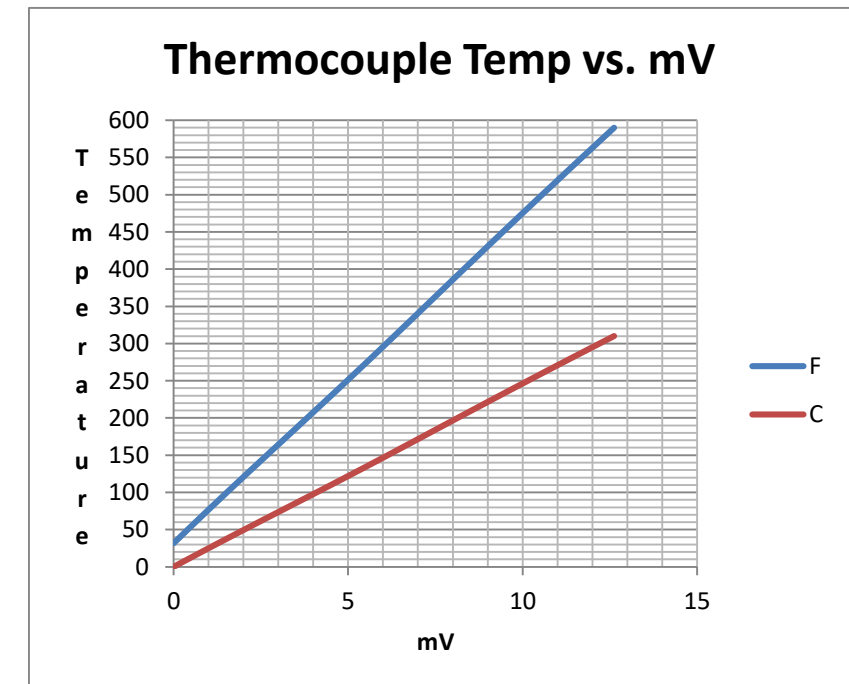

Figure 54 Type K Thermocouple Millivolt Chart
- Measure millivolts at room temperature – Should be 0.843 millivolts at 70°F – Refer to Figure 54